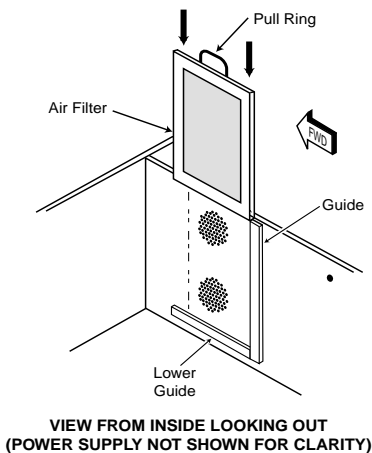

Figure 5-28. Air Filter Installation Detail
- [] 3. After the air filter is firmly seated in the unit, gently push the Pull Ring over so that it is flush with the top of the Power Supply Unit. See **Figure 5-28**.